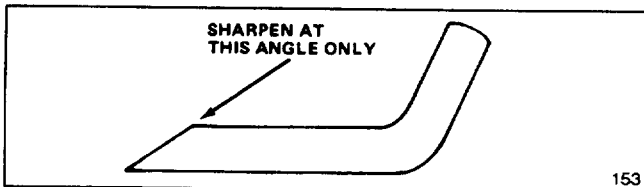

Figure 23
6. **SHARPENING BLADE**—Using a file, sharpen top side of blade and maintain original cutting angle (Fig. 23). The blade will remain balanced if same amount of material is removed from both cutting edges.